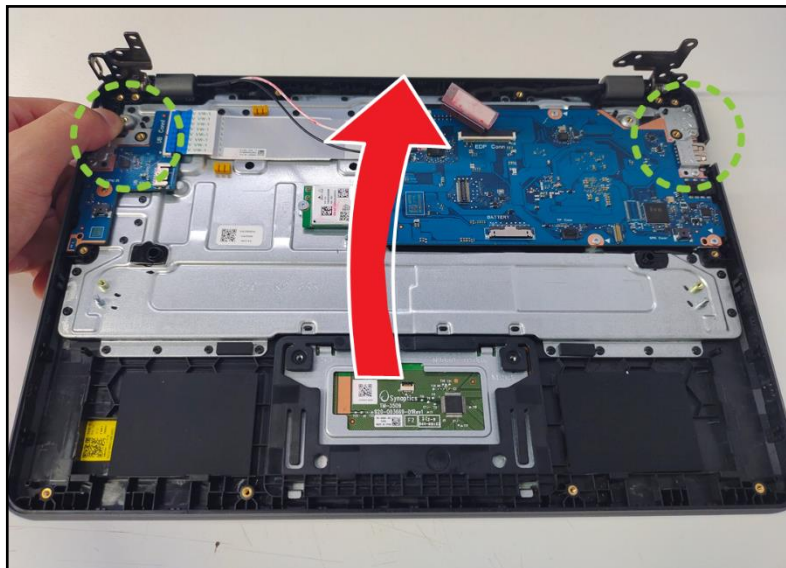

Figure 3-32. LCD Module Removal
13. By holding the I/O brackets, continue to fully open the top assembly (Figure 3-32).
14. Remove the LCD module (E) away from the top assembly (Figure 3-32).